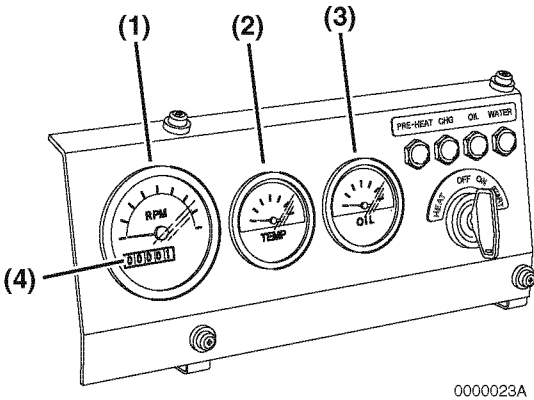
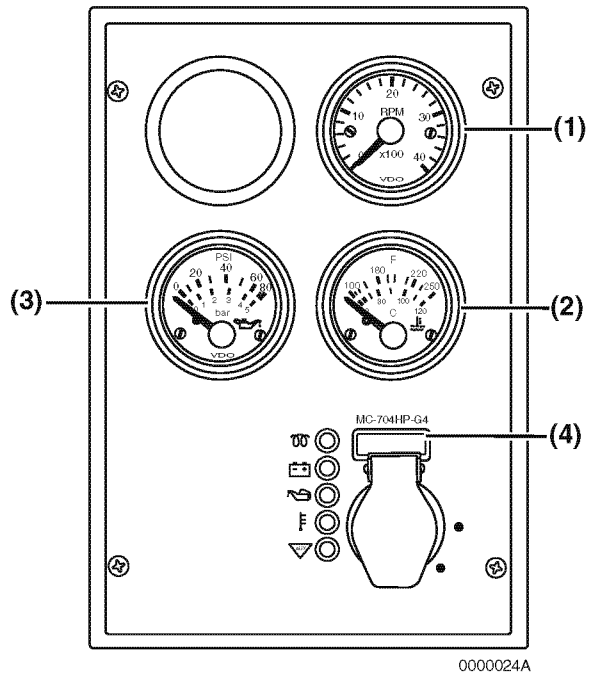

Figure 7
Figure 8
Tachometer - The tachometer display (**Figure 7, (1)**) or (**Figure 8, (1)**) shows the engine speed in revolutions per minute (RPM).
Engine Coolant Temperature - The engine coolant temperature display (**Figure 7, (2)**) or (**Figure 8, (2)**) shows the temperature of the engine coolant.
Engine Oil Pressure - The engine oil pressure display (**Figure 7, (3)**) or (**Figure 8, (3)**) shows the pressure of the engine oil.
Hour Meter - The hour meter display (**Figure 7, (4)**) or (**Figure 8, (4)**) shows the total number of hours the engine has run. This is useful for planning the *Periodic Maintenance Procedures* on page 72.